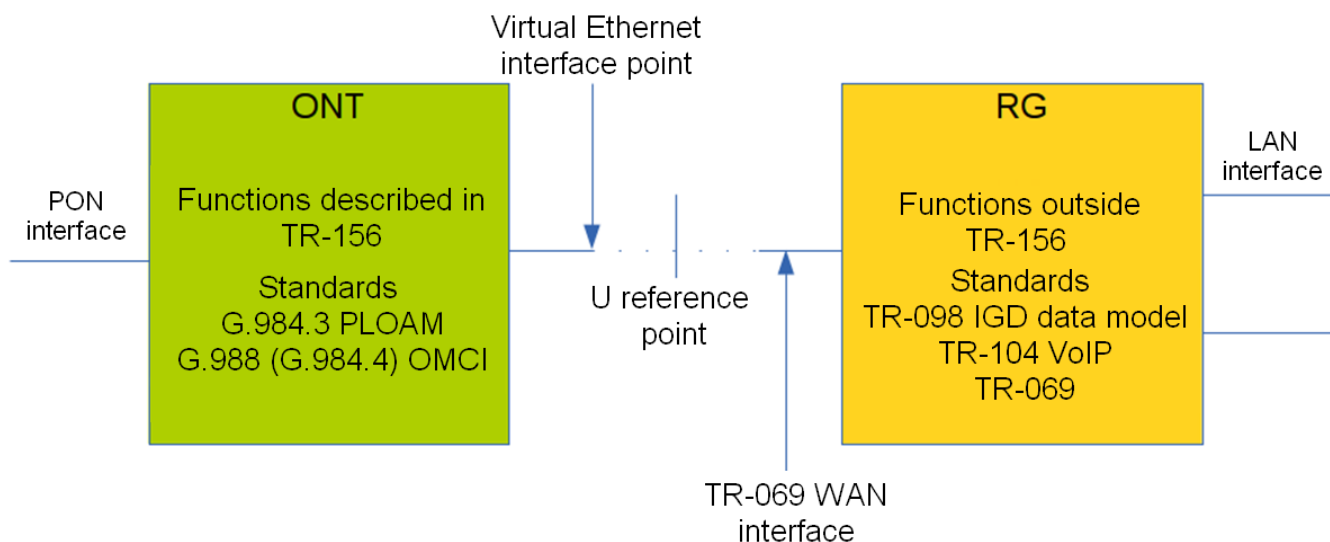

Figure 41 – ONT/RG management domains
- **Step 8.** Configure a ports profile. According to Figure 41, we need to associate the first two LAN ports with the RG management domain, while the other two should be associated with the OMCI domain and bound to bridge 1.